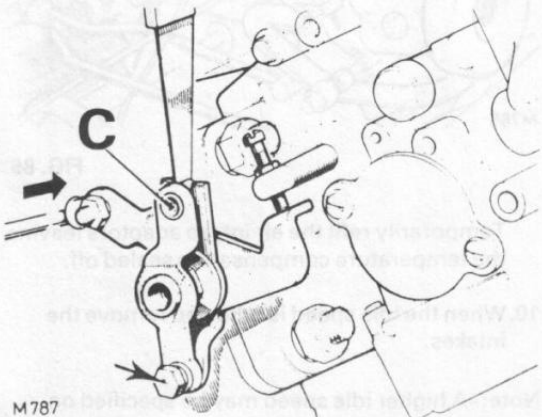

FIG. 88
13. On the right hand carburettor, manual and automatic transmissions, place a 0.05 mm (.002 in.) feeler in the position shown in **Fig. 88**. Note the feeler gauge as shown is to the left of pin "C".